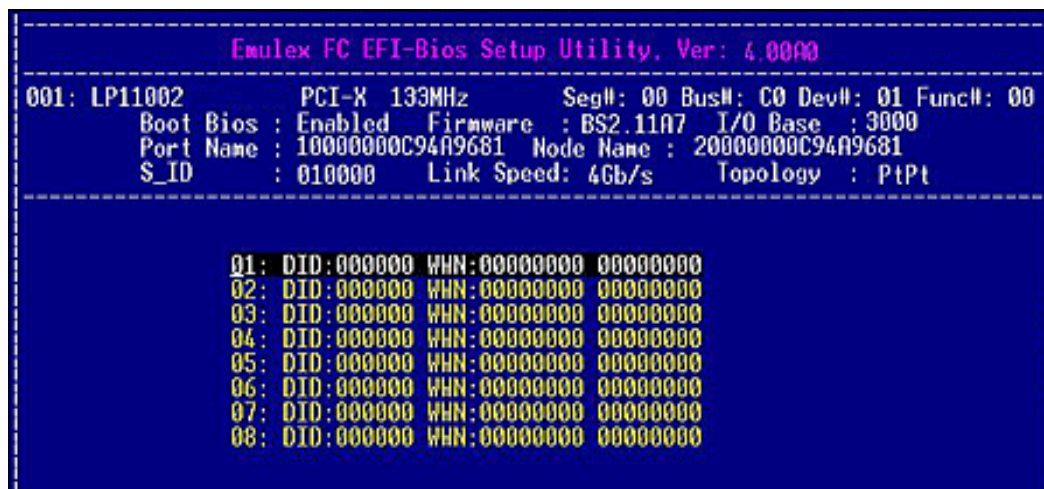

Figure 6-20 Device Rows Screen
1. On the Boot Configuration menu, select **4. Configure Boot Devices** and press **<Enter>**. The screen shown in Figure 6-20 is displayed.